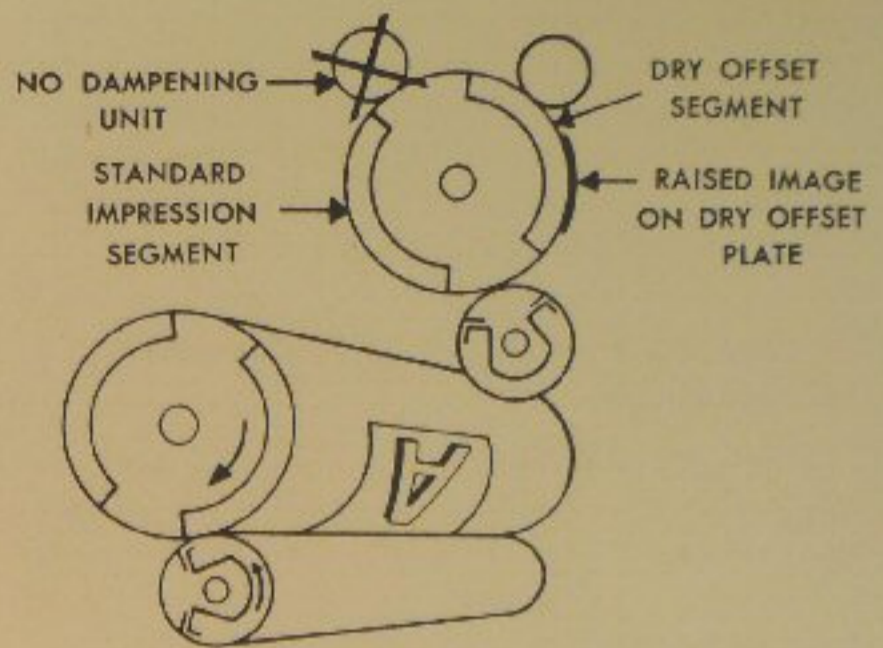

Fig. 119 Dry Offset Printing on Your Davidson
2. Because the dry offset plate does not touch the paper, but rather contacts the blanket with a light, "kiss" impression, extremely long plate life may be expected (Fig. 119). Runs of over a million impressions from a single plate are common.